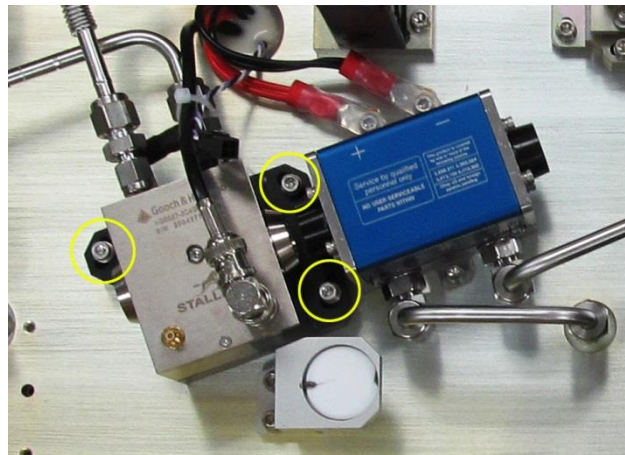

Figure 2-17: Location of Q-Switch Attachment Hardware
3. Remove the three (3) #8-32 x 1 ¼" screws holding the Q-switch mount to the laser bench (see **Figure 2-17** below).